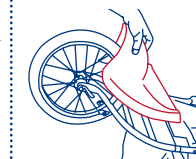

Fig. 7c
- Line up the front fender and press onto the front frame assembly (Fig. 7c).